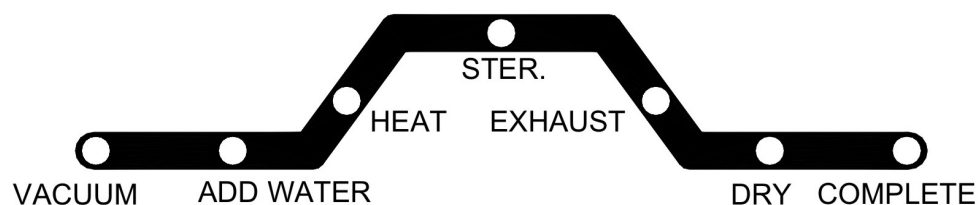

Figure 44
- D. Press the **START** button, the setting temperature, duration, and dry time displayed two times on the three-digit display, and then the sterilizer will automatically run through the selected program. The current progress of the sterilization cycle is indicated by the illuminated LED on the Process Status Indicator. (Figure 44)